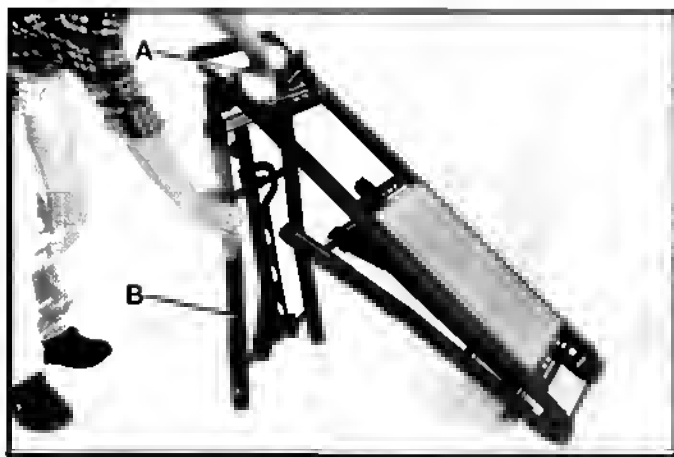
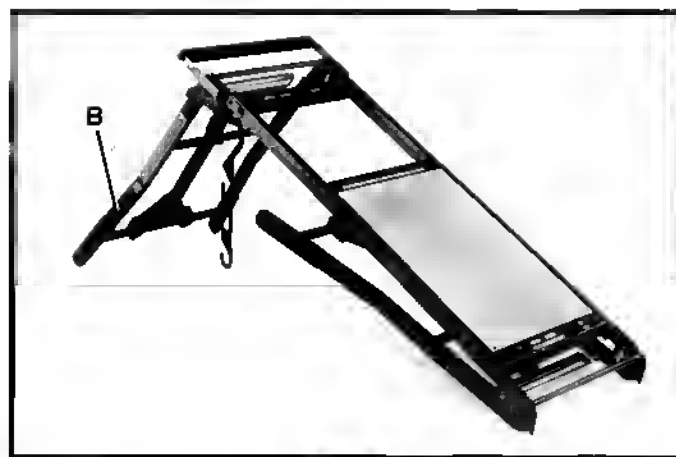

Fig. 7
Fig. 8
1. Lift up bar (A) Fig. 7, and pull out leg (B) until leg (B) locks in place as shown in Fig. 8. **NOTE:** For best results stand directly behind leg when opening, as shown in Fig. 7.